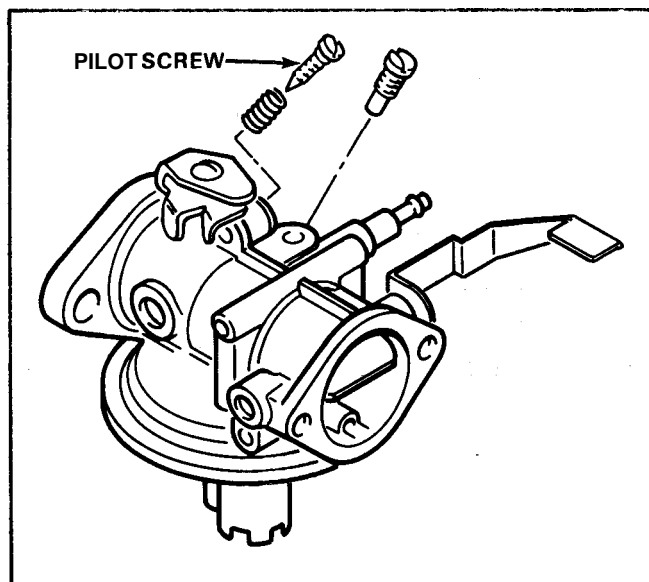

Figure 17
The pilot screw controls air in the pilot circuit. It should be open 1 to 1-1/2 turns on all engines. See Figure 17.
2. Install the pilot jet and pilot screw. Refer to Figure 17. The pilot screw should be open 1 to 1-1/2 turns.